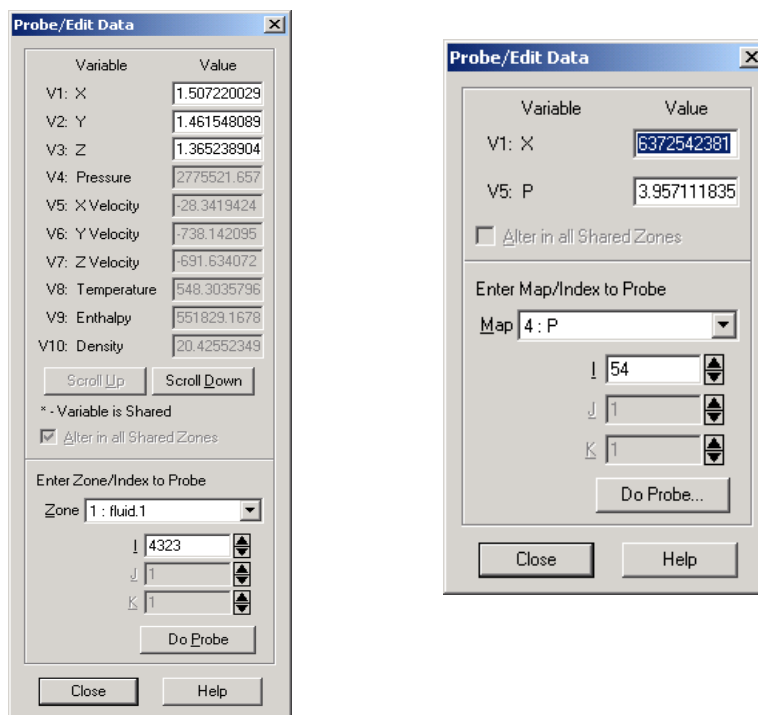

Figure 25-9. Probe/Edit Data dialog for field plots (left) and XY Line plots (right).
3. Double-click on the point you want to edit, or click on the point and then click Object Details on the sidebar. The Probe/Edit Data dialog appears, as shown in Figure 25-9. All variables in the zone or mapping are listed, along with their values at the probed point. For 2D and 3D plot types, the Probe/Edit Data dialog has Scroll Up and Scroll Down buttons which are active if the data set has more variables than can be displayed on one page of the dialog.